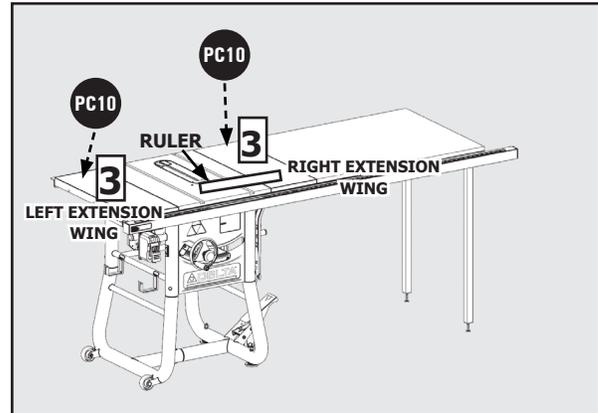

Figure 10
4. Attach the left side extension wing **PC10** [3] to the side of the saw table using three 5/16 18 x 7/8 inch hex head screws with Split Lock Washers **HP7**. See Figure 10.
4. Attach the extension wings **PC10** [3] to the table using three 5/16-18 x 7/8 inch Hex Head Screws with Split Lock Washers **HP7** for each wing. See Figure 10.
NOTE: Use a ruler to make sure the top edges of the wings are flush with the top of the tabletop. See Figure 10.